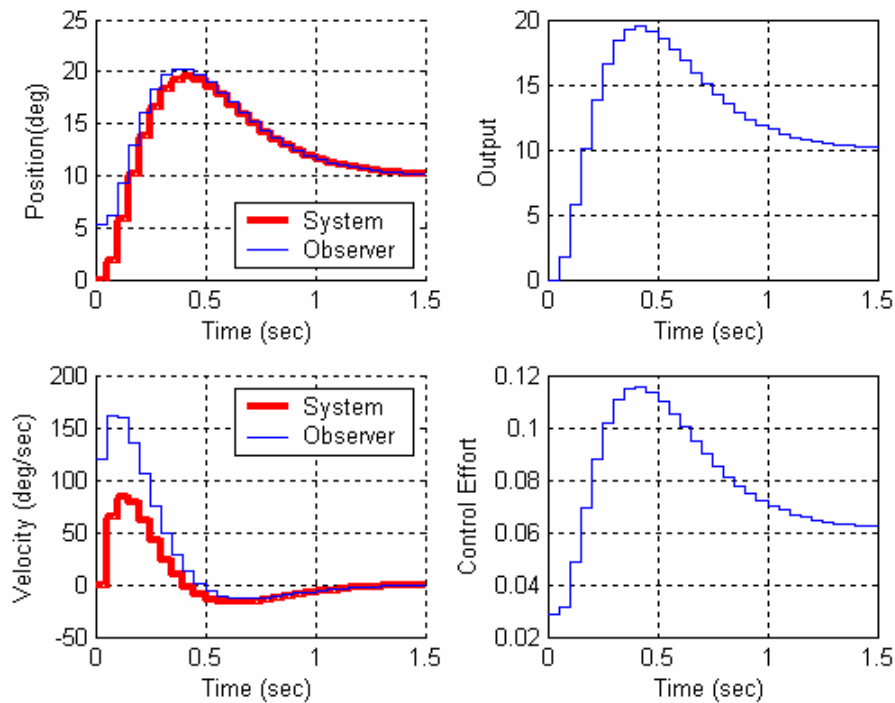

Figure 1. Results for problem **1b**. Note the initial estimated position does not appear to be 10 degrees, and the initial estimated velocity is not zero.
b) Place both the state feedback and observer poles all at 0.7. The output of the system is the position of the first disk and this is also the output available to the observer ($C = C_y$ in this case). The disk is initially estimated to be at 10 degrees (be careful of units here! The model works in radians.). The initial estimates of the velocity and delayed control signal are zero. The real system starts at rest (all initial conditions are zero.) For a 10 degree step input you should get the graph shown in Figure 1. Turn in your plot.